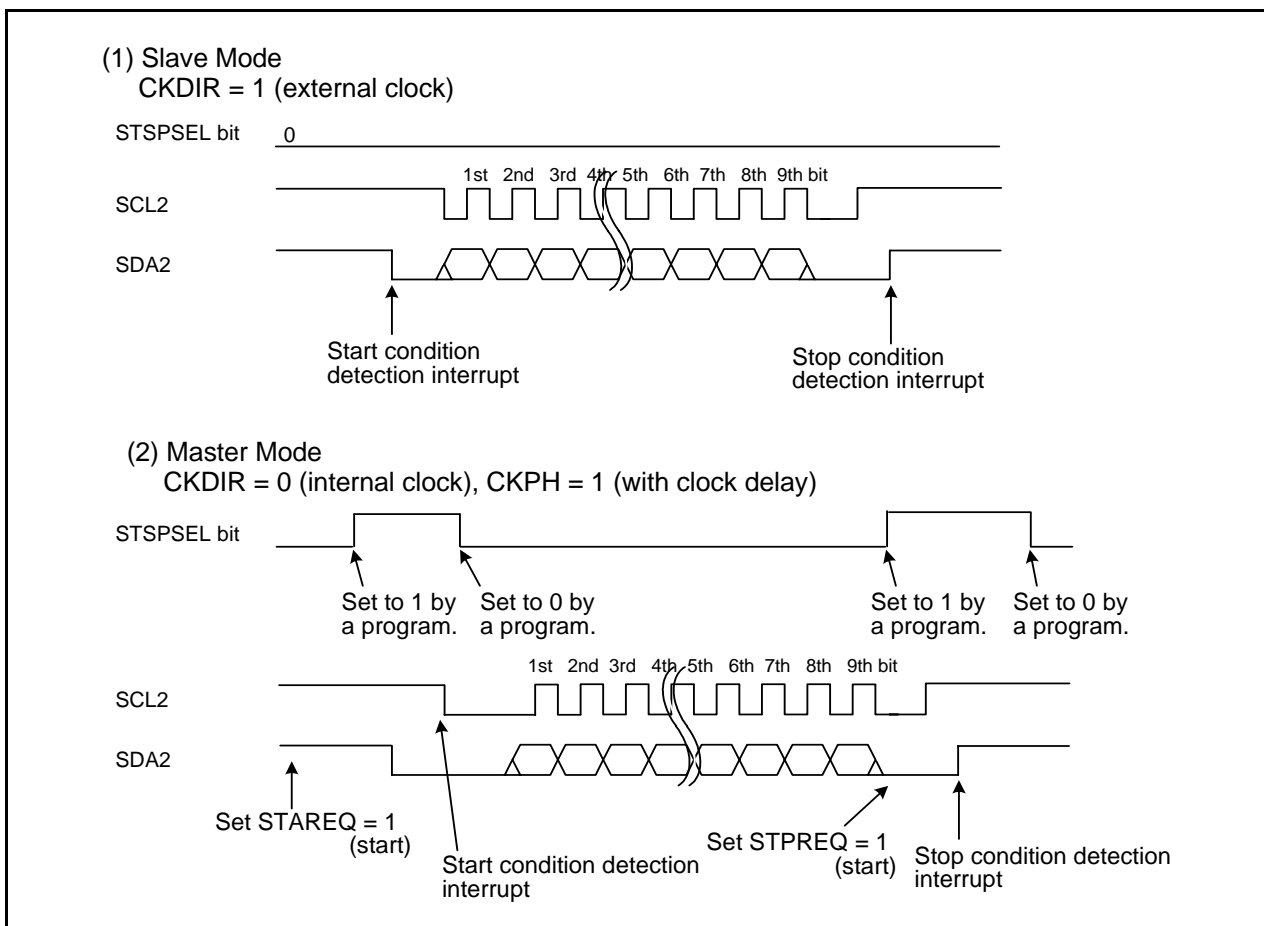

Figure 23.16 STSPSEL Bit Functions
5. Refer to **Figure 23.16 STSPSEL Bit Functions**.
Table 23.13 lists the STSPSEL Bit Functions. Figure 23.16 shows the STSPSEL Bit Functions.